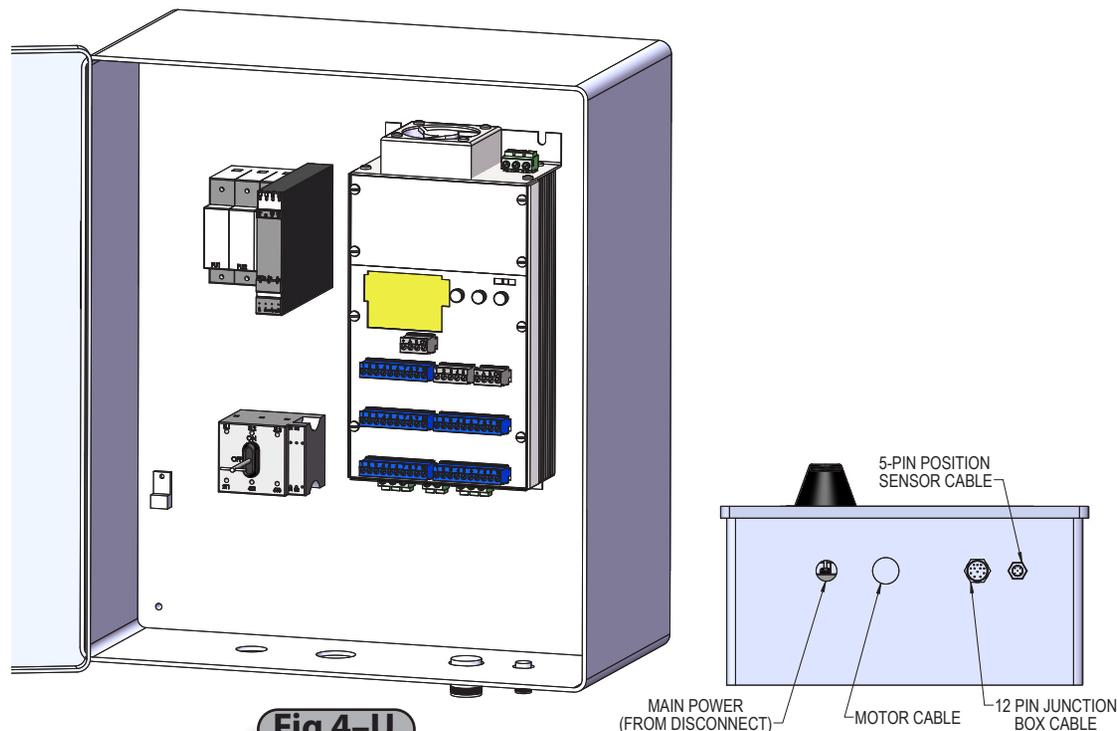

Fig 4-U
STEP 15 INSTALL SAFETY LABELS, Fig. 4-V